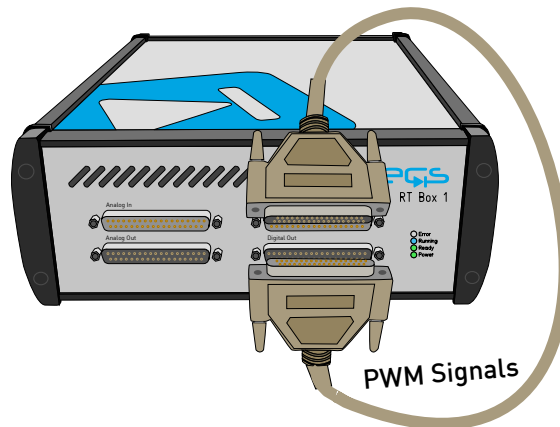

Fig. 6: Hardware configuration for the real-time operation of the demo model
- Connect the Digital In interface to the Digital Out interface of the RT Box, i.e. by using a 37 pin Sub-D cable as shown in Fig. 6 on p. 7. When using an RT Box 3, two Sub-D cables must be connected.